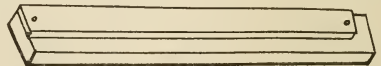
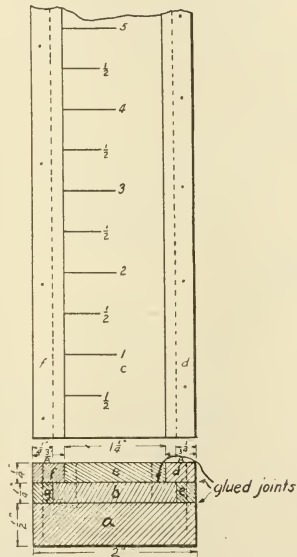
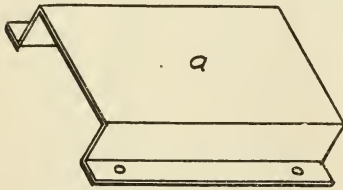

FIG. 90.—HOLDING A THIN STRIP FOR
FIG. 91.—DETAILS OF LEVELING ROD.
FIG. 92.—STIRRUP FOR LEVELING ROD.
Plane up the piece *a*, Fig. 91, to size, following the directions given in previous lessons as to planing up
stock. The dimensions of this piece will be $\frac{1}{2}'' \times 2'' \times 5' 6''$. As it is a thin, narrow piece, it is apt to buckle and break in planing. To prevent this, fasten the two ends to a board, as shown in Fig. 90, by boring $\frac{3}{8}''$ holes through the piece and board and driving hardwood pegs in flush with the top of the piece to be planed. Very thin lumber can be surfaced this way, and all the pieces in this exercise can be planed on the same board with the same pegs and board. Each of strips *d*, *e*, *f*, and *g*, Fig. 91, are $\frac{1}{4}''$ thick and so can be planed in one strip and cut apart afterwards. In cutting apart the strips, some lumber will be wasted, as the edges must be planed, so it will be necessary to allow for this waste and make the piece from which they are cut $1\frac{1}{2}''$ wide, although the sum of the widths is only $1\frac{1}{4}''$.
2. **Assembling all pieces and shellacking.** — Strip *c* should now be glued and nailed to strip *b* in the position shown in Fig. 91, end view.
Make a brass stirrup so it will just fit over the leveling rod and have two flanges about $\frac{1}{4}$ " wide through which screws can be driven to hold it to the target. (See Fig. 92.) Drill two holes in each flange large enough to fit the $\frac{1}{4}$ " screws. With the hammer, dent in the surface from the outside a little at *a*; this will make it bind on the rod and cause it to stay wherever placed without holding. Saw off the top 6" of the part *adefg*, Fig. 91, and fasten to part *bc* with two screws.